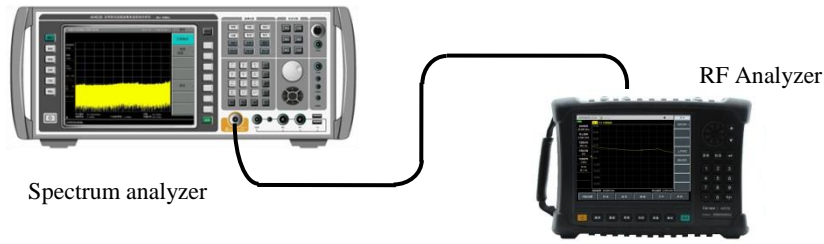

Figure 16-1 Block Diagram of Frequency Range and Frequency Accuracy Test
- c) Connect the instrument as shown in Figure 16-1; connect Port 1 (radio frequency output port) of the instrument to the RF input port of the spectrum analyzer, set the reference level of the spectrum analyzer to 10 dBm, and enable frequency counting;